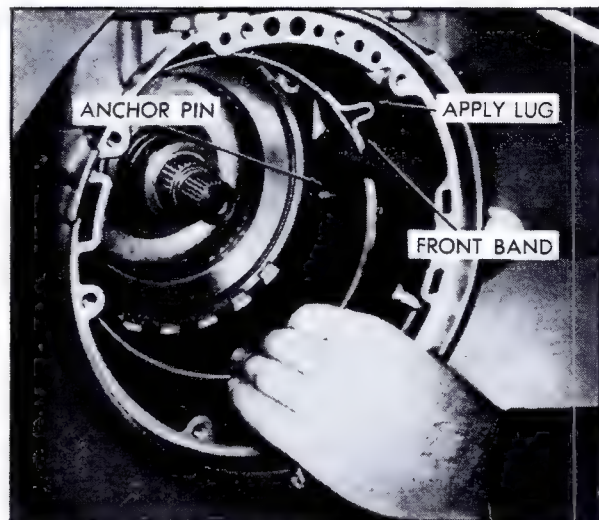

Fig. 7-112 Installing Front Band
2. Install front band with band anchor hole over band anchor pin, and apply lug facing servo hole, Fig. 7-112.